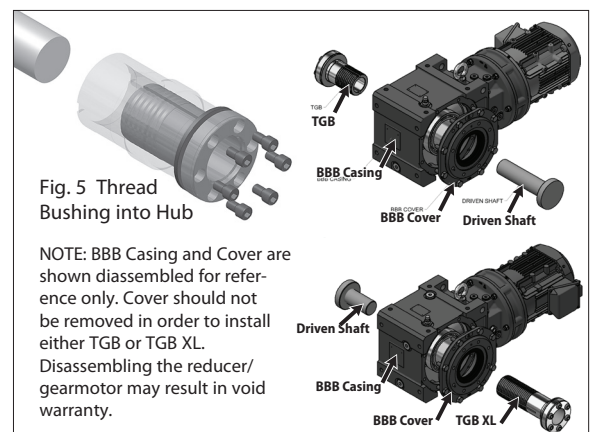

Fig. 5 Thread Bushing into Hub
Step 5 – Carefully thread the Taper-Grip® bushing (TGB) in casing side or Extended Taper-Grip® bushing (TGB XL) in cover side into the hub of the speed reducer or gearmotor until the thrust collar solidly engages the unit hub surface and the bushing flange (see Fig. 5). **Caution: Do not cross-thread. Bushing should thread easily into hub.**